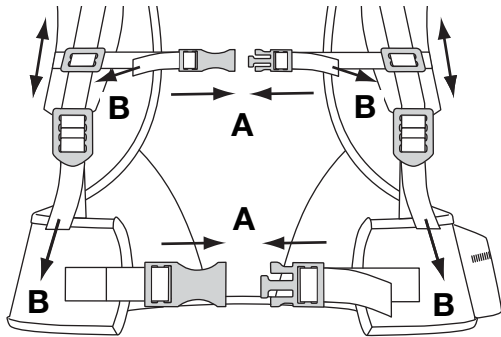

Fig. 18
2. Close the suspension system by sliding the waist and shoulder support clips together (Fig. 18, A).
4. Pull the shoulder support handles to tighten the shoulder supports (Fig. 18, B).